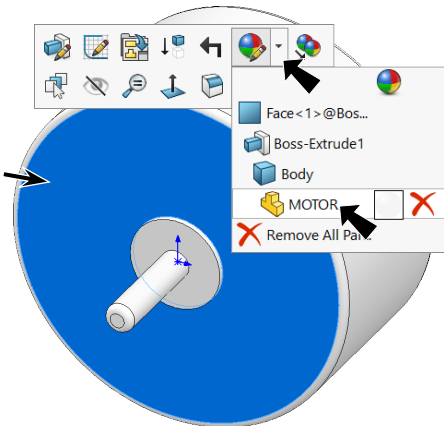

Fig. 17
Step 1. Click the Motor to select part, click **Appearances Call-out**  on the context toolbar and click **MOTOR** , **Fig. 17.**